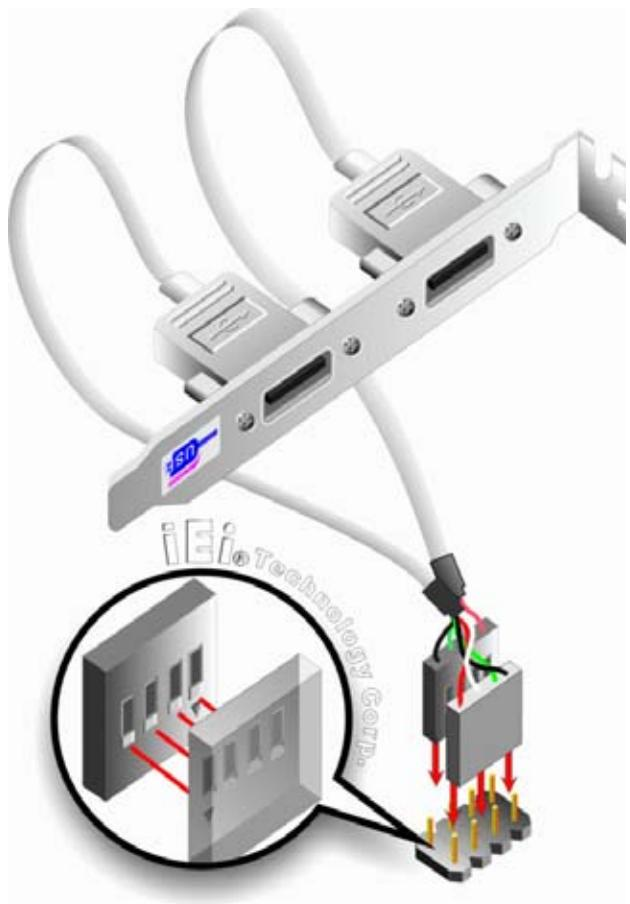

Figure 5-9: Dual USB Cable Connection
Step 3: Insert the cable connectors. Once the cable connectors are properly aligned with the USB connectors on the eKINO-945GSE, connect the cable connectors to the on-board connectors. See **Figure 5-9**.